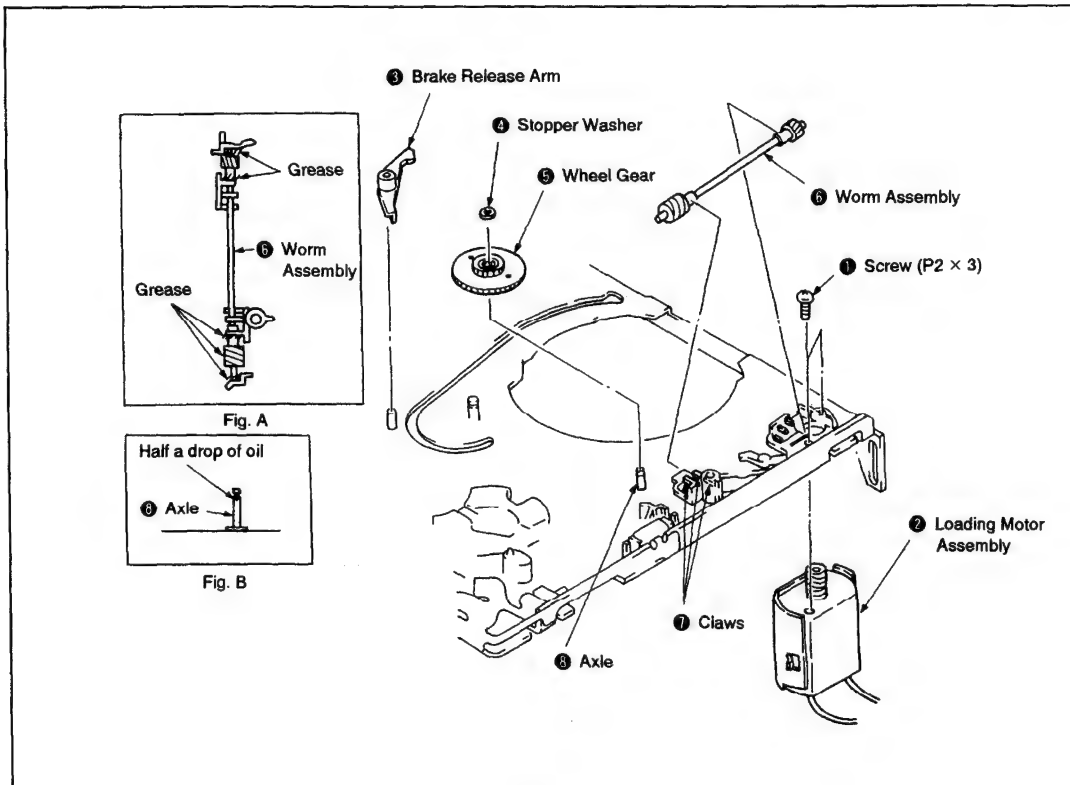

Fig. 3-21.
1. Removal (See Fig. 3-21.)
2. Installation (See Fig. 3-21.)